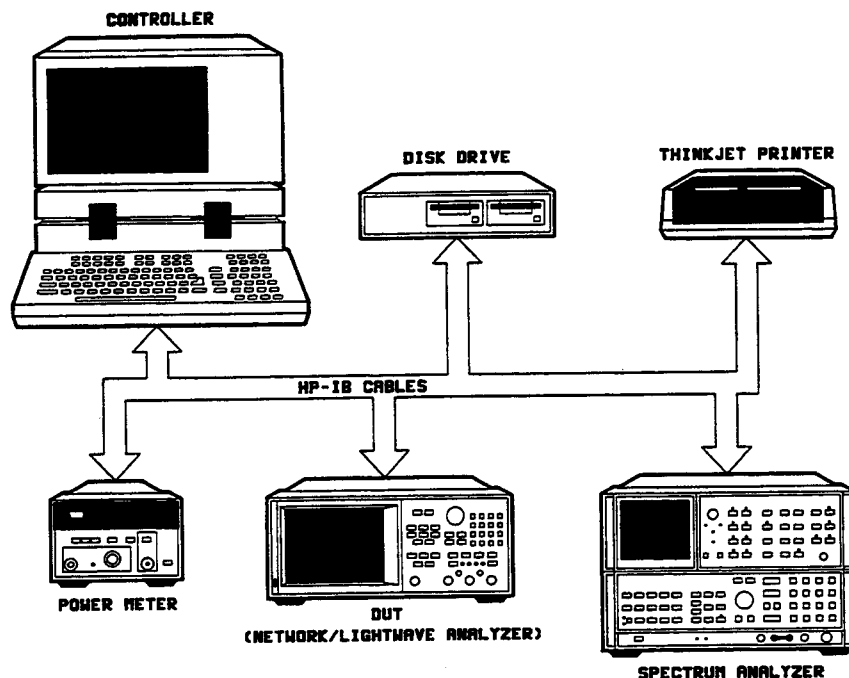

Figure 18. System Configuration for Spectral Purity Tests
1. Connect equipment as shown in Figure 18.